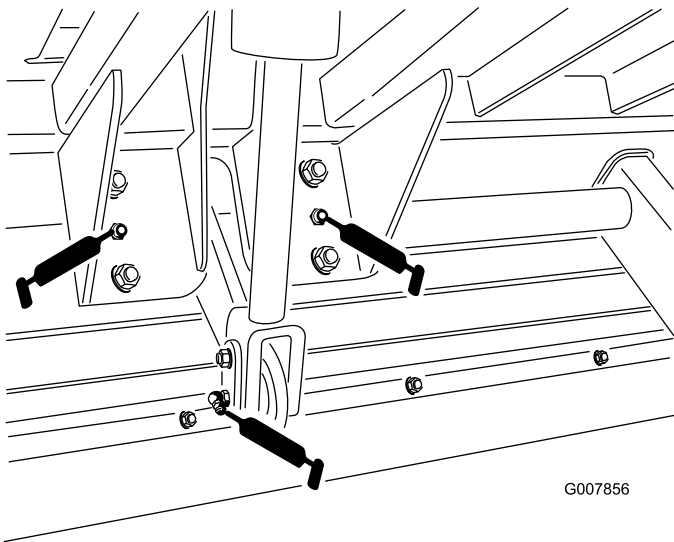
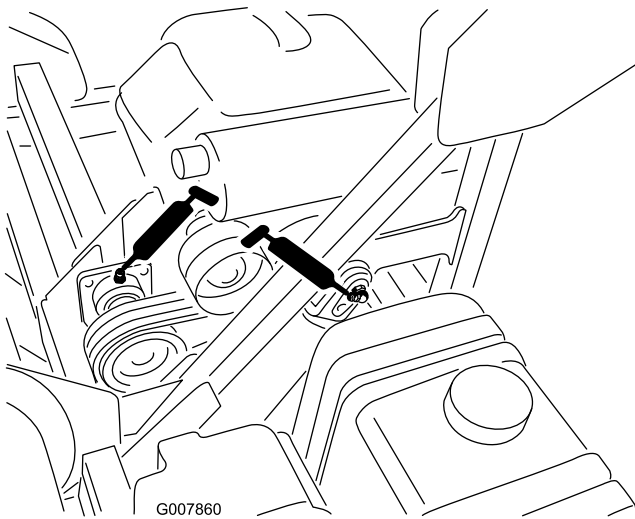

Figure 39
Figure 42
- Lift cylinder, Qty. 2 (Figure 39 & Figure 42)
- Lift axle, Qty. 2 (Figure 39)
- Jack shaft, Qty. 2 (Figure 42)